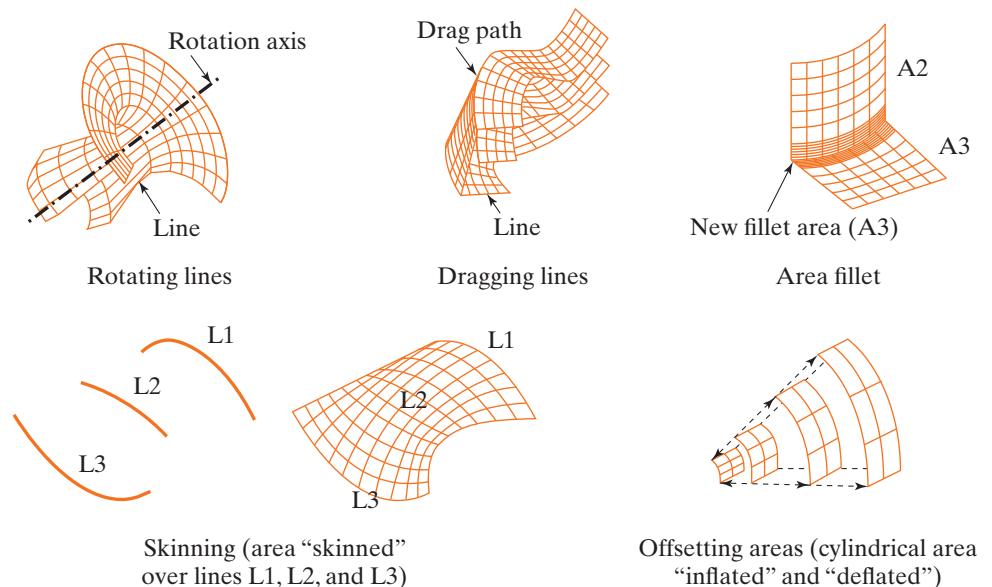

FIGURE 16.22
edges of an object. You can then use the created lines to generate a surface. For example, to create a rectangle, you first define the corner points by four keypoints, next you connect the keypoints to define four lines, and then you define the area of the rectangle by the four lines that enclose the area. There are additional ways to create areas: (1) dragging a line along a path, (2) rotating a line about an axis, (3) creating an area fillet, (4) skinning a set of lines, and (5) offsetting areas. With the area-fillet operation, you can create a constant-radius fillet tangent to two other areas. You can generate a smooth surface over a set of lines by using the skinning operation. Using the area offset command, you can generate an area by offsetting an existing area. These operations are all shown in Figure 16.22.